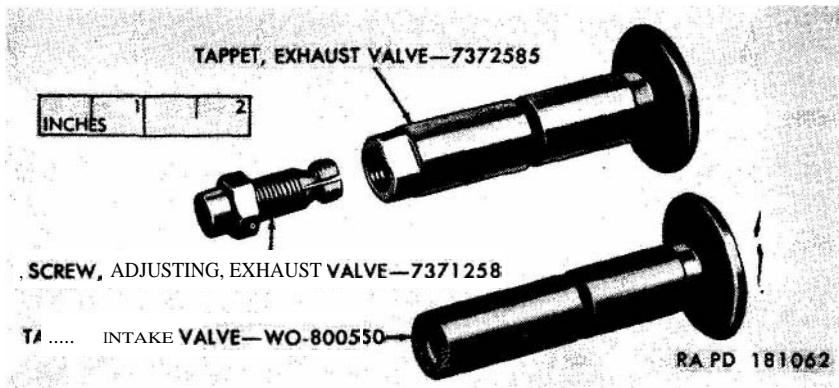

Figure 51. Intake and exhaust valve *tappets*—*disassembled* view.
Remove the exhaust valve adjusting screw from the end of the exhaust valve tappet. The intake valve tappet, being one piece (fig. 51) is subject only to the cleaning and inspection operations.
- (1) Check the threads and the fit of the exhaust valve adjusting screw in the exhaust valve tappets (fig. 51). The fit of a screw should be such that a wrench is required to turn it into or out of the tappet. Replace the worn part, either the screw or the tappet, or both, if there is looseness between the parts.
- (2) Check the clearance of the tappets in their bores in the cylinder block (repair and rebuild standards (par. 142b)). If there is excessive clearance between the bore and the tappet, try new unused tappet in the bore. If the clearance is still